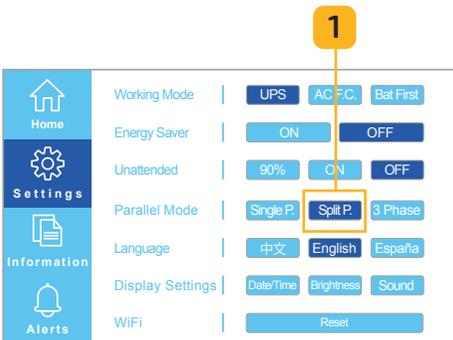

Fig. 6.24 Select split p. button
1. Select the **Split P.** button to set the unit's phase to P1 or P2 (Fig. 6.24).